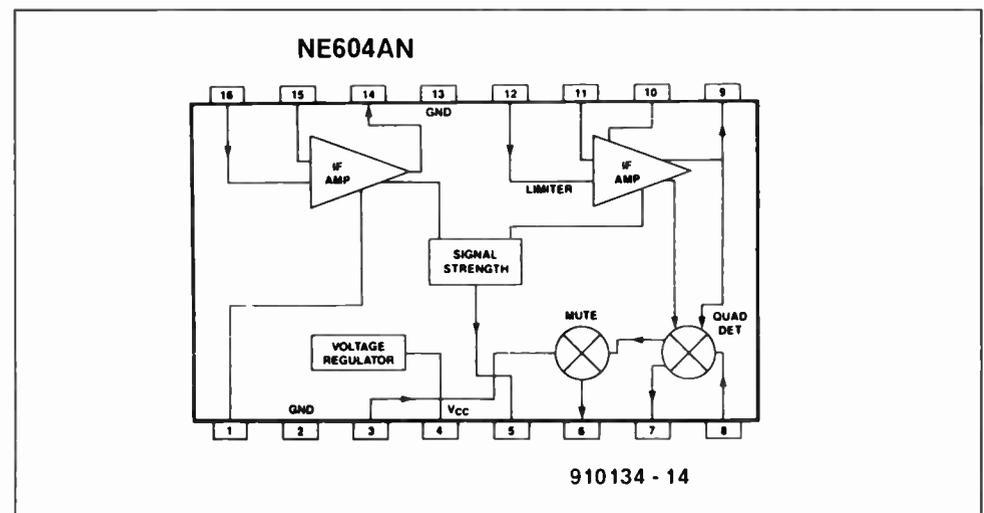

Fig. 4. Block diagram of the NE604A FM IF system (courtesy Signetics).
As already mentioned, the NE604 (IC₂) combines a number of functions in this circuit. The block diagram in Fig. 4 tells the whole story. A 10.7-MHz ceramic filter, FL_1 , is inserted between the output of the first IF amplifier and the limiter input of the second IF amplifier on board the NE604. The quadrature (FM) detector is connected to a ready-made 10.7-MHz inductor, L_{15} , via coupling capacitors C_1 and C_2 . Pin 7 of the NE604 supplies the demodulated signal ahead of the mute circuit (see the block diagram). This unmuted signal may be used for AFSK decoders and other equipment (packet radio TNC) that must always work, irrespective of the set mute level. The signal is brought out to a jumper block marked D, which allows ready connection to a screened cable.